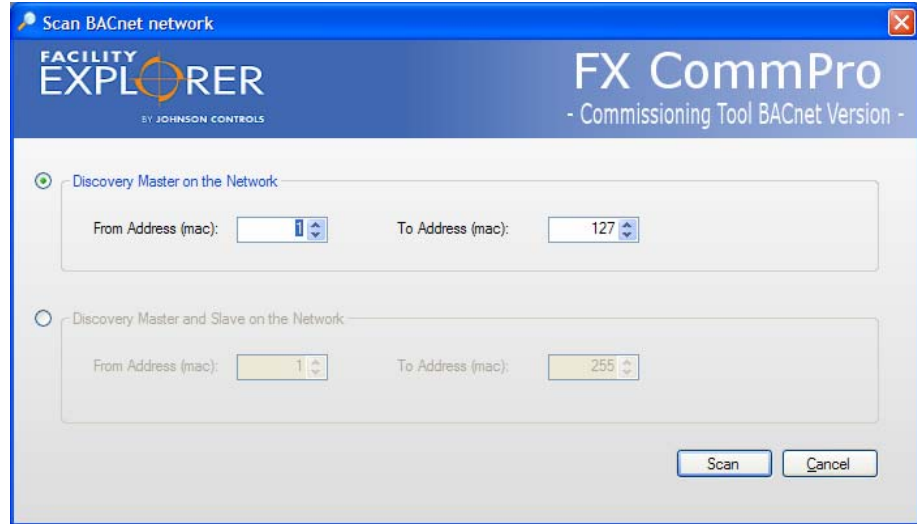

Figure 25: Scan BACnet Network Window
9. Click Connect. The Scan BACnet Network window appears (Figure 25).